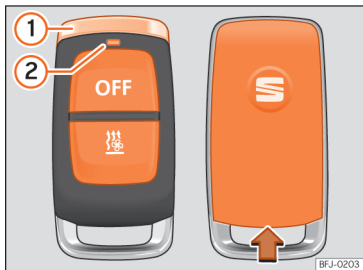

Fig. 138 Auxiliary heating: radio-operated remote control.
When the buttons are pressed, the LED of remote control **»» Fig. 138 ②** gives the user a range of information:
- Secure the remote control with the chrome pin **»» Fig. 138 ①** vertically facing upwards.
- Insert a suitable tool, e.g. a screwdriver, into the indentation in the remote control housing, in the direction of the arrow **»» Fig. 138**.
- Slide the cover in the direction opposite to the arrow until it clicks into place »» Fig. 138.